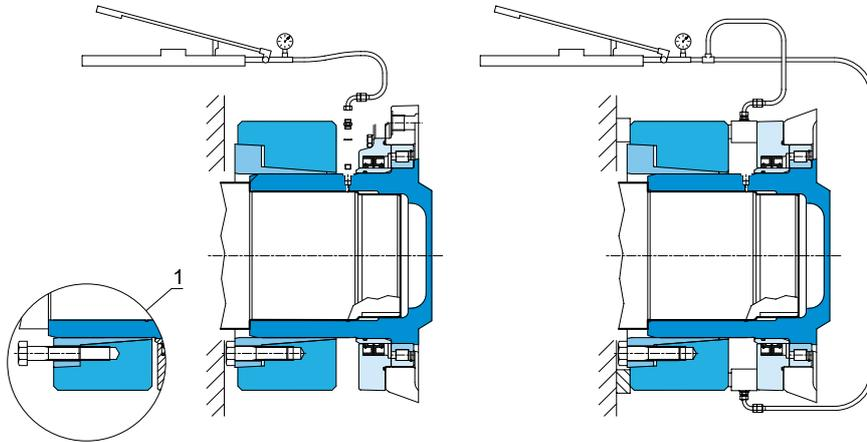

Fig. 5
- 2) If the rings do not separate on their own after loosening the screws, transfer some of them to the extraction holes of the inner ring (Fig.5 detail 1) and, tightening them, separate the inner ring from the outer ring.
- 3) Slide the joint axially as shown in fig.5 to allow use of the hole G 1/8" for the introduction of pressurized oil (max. 1000 bar) to facilitate removing the gear unit from the machine shaft.